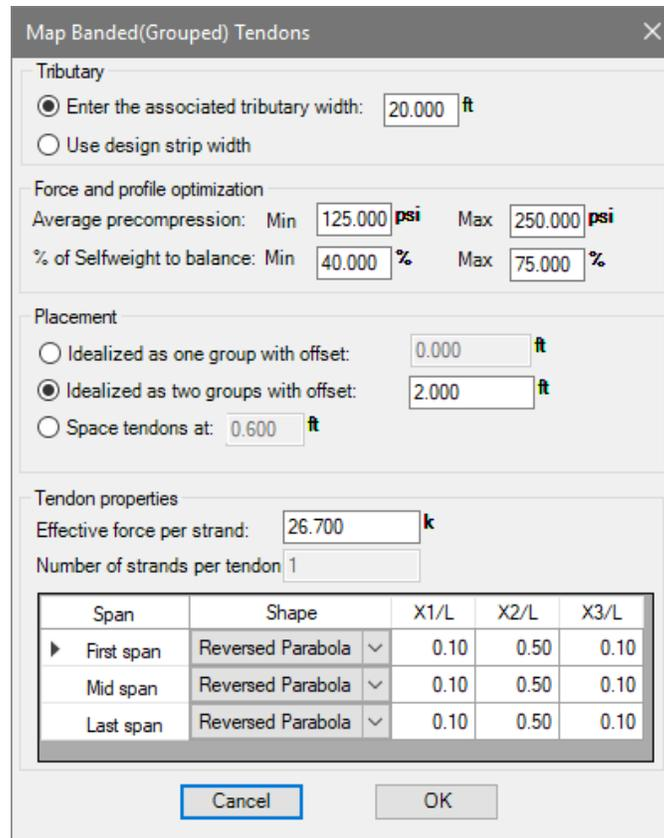

Figure 8-11
- Go to *Tendon* → *Model* and click on the *Map Banded*  icon of the **Tendon** toolbar. This will display the Map Banded (Grouped) Tendons dialog window shown in **FIGURE 8-11**.